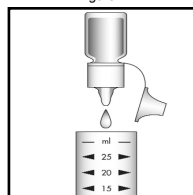

Figure 2
2. Add 16 drops of A-3800 Neutralizer Solution (fig 2). Cap the sample cup and shake it to mix the contents well.
3. Shake the A-3801 Activator Solution and then add 2 drops (fig 2). Cap the cup and shake it to mix the contents well.